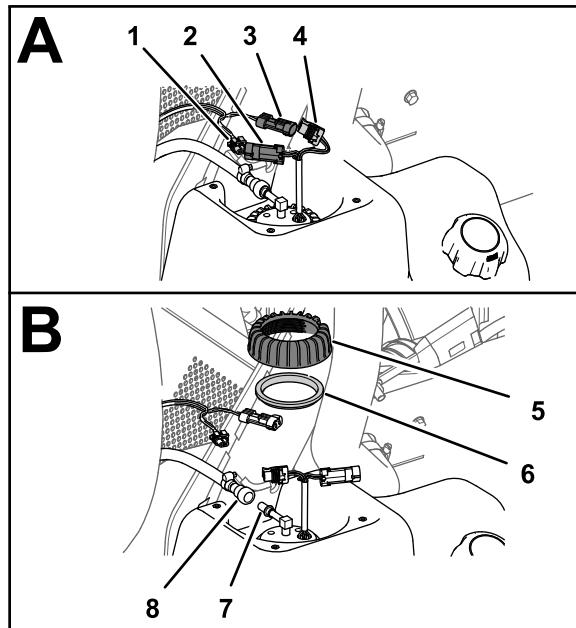

Figure 81
connector of the fuel pump/sending unit (Figure 81).
2. Slide the locking sleeve of the fuel-hose coupling away from the fitting of the fuel pump/sending unit and remove the coupling and hose from the fitting (Figure 81).
3. Rotate the nut for the fuel pump/sending unit counterclockwise and remove the nut and seal (Figure 81)